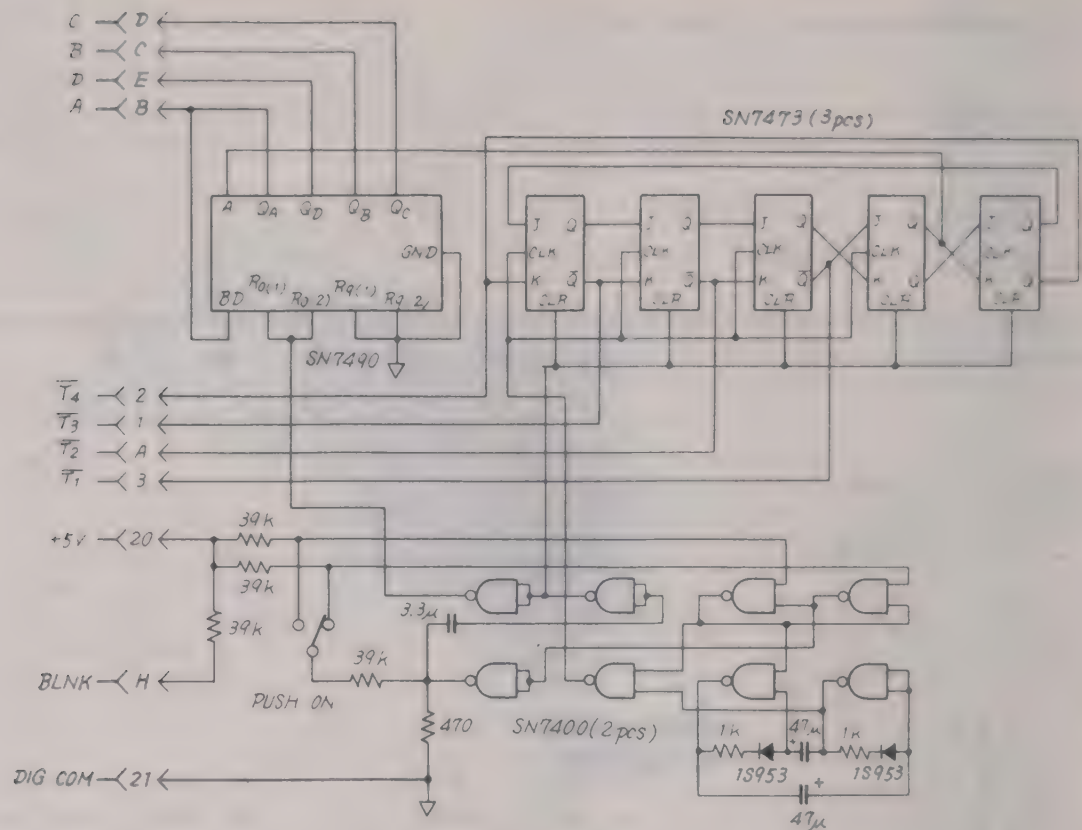

Fig. 2-6 Circuit Diagram of Test Card (1)
Test card (1): For numeral check, typically illustrated in Fig. 2-6